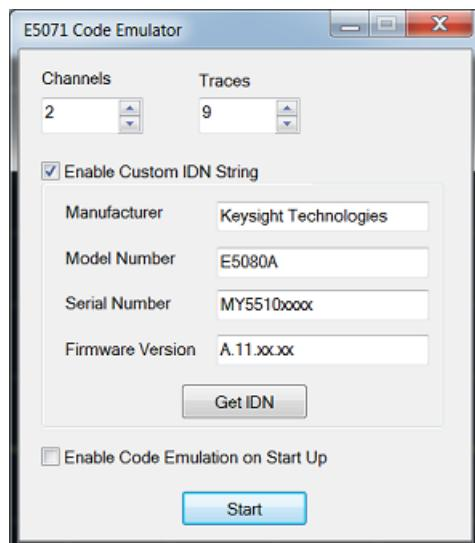

Figure 11-47 E5071 Code Emulator
- 9 To quit the emulation mode, press **Exit** on the dialog box in Figure 11-47.